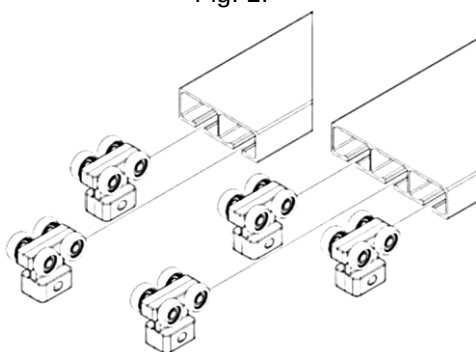

Fig. 2
2. Insert the carriages into the top guide rails and move them inside the rail clear of the installation holes (use 2 carriages per panel). The carriages can be inserted in the rail tracks of choice (depending on the model, the rail is two- or three-track). Secure the carriages in place to prevent movement until the rail is bolted in place (Fig. 2).